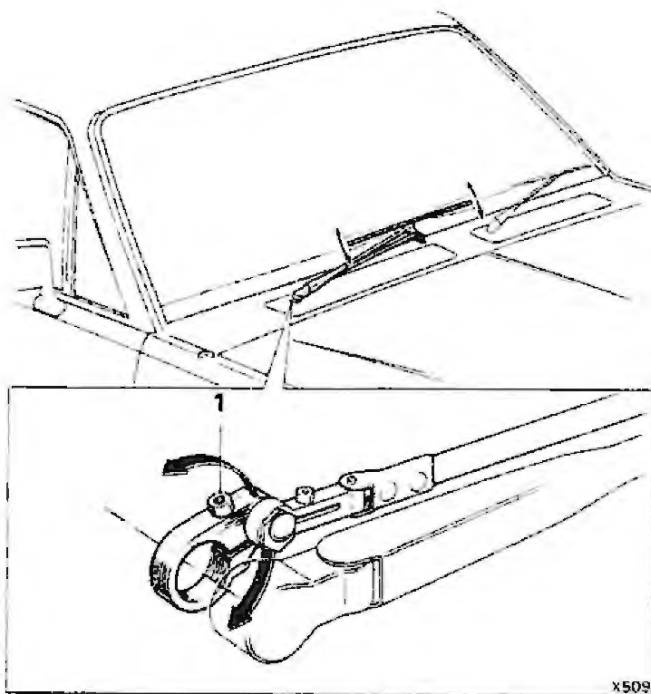

Fig. 7
- 23B Fit the driver's side pantograph wiper arm onto the drive spindle (see fig.7).
- 24B Rotate the adjustment clamp '1' to align the wiper blade with the darkened line on the windscreen (see fig. 7).